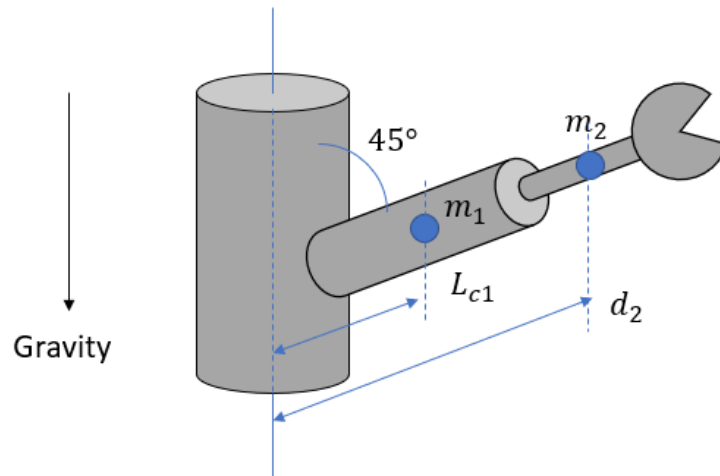

Figure 4.1: RP Robot
4. An RP robot is shown in Figure 4.1.